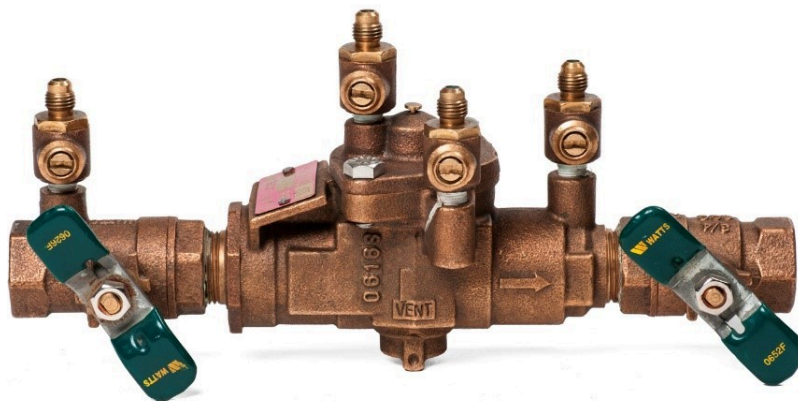

Figure 16 Reduced pressure backflow assembly (RPBA)
Any time that potable water is connected to a liquid non-potable system, even with a pipe or tank wall between the two, there is a hazard of the mixing of potable and non-potable fluids through a break in the wall. Most plumbing jurisdictions in Canada are acutely aware of cross connection control regulations and standards, and have strict requirements that must be met. In areas within British Columbia that have cross connection control programs in place, the procedures for installing and testing backflow preventers as laid out by BCWWA (BC Water and Waste Association) apply. Otherwise, the enforceable regulations found in the BC Plumbing Code and/or National Plumbing Code of Canada or local bylaws must be followed. Always check with the governing Authority Having Jurisdiction for any cross connection control requirements before planning a solar thermal installation. When in doubt, the installation of an RPBA (reduced pressure backflow assembly) to protect the potable water system is never a bad choice (see Figure 16 below).
- Figure 16 Reduced pressure backflow assembly (RPBA) © Caleffi Hydronic Solutions. Used with permission.